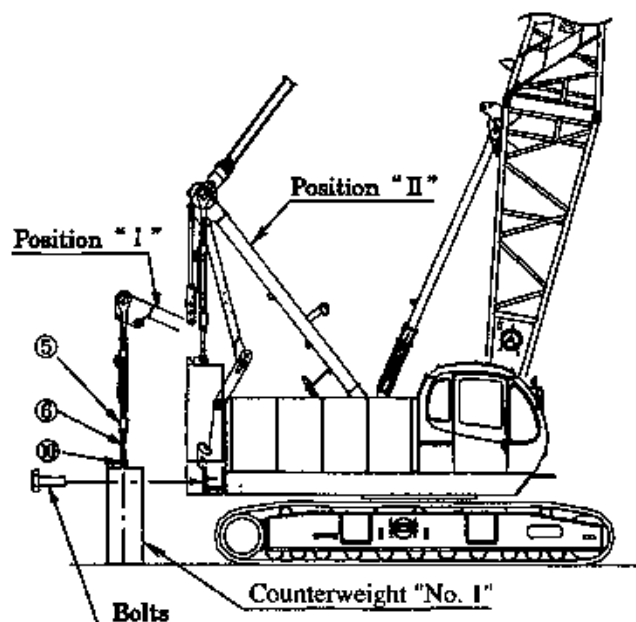

Fig 5-22
(FIG. 5-22)
- (1) To secure a space to lay the counterweight No. 1 down on the ground, travel the machine forward, or turn the machine 180°.
- (2) Retract the lift cylinder, and raise the gantry as per the "Position II" shown in (Fig. 5-22) by boom raising operation.
- (3) Connect the link ⑥ and the counterweight No. 1 with the pin ⑩.
- (4) Remove the mounting bolts of the counterweight No. 1.
- (5) Lift the counterweight No. 1 by operating the control box to fully retract the right and left lift cylinders ①, while keeping a balance of right and left.
- (6) Lower the gantry by boom lowering operation to the position "I". Then extend lift cylinder ① to lay the counterweight No. 1 down onto the ground.
- (7) Remove the pin ⑩ from the counterweight No. 1.
- (8) Travel the machine forward by 2 to 3 m (6.6 to 9.8 ft), or turn the machine 180°.